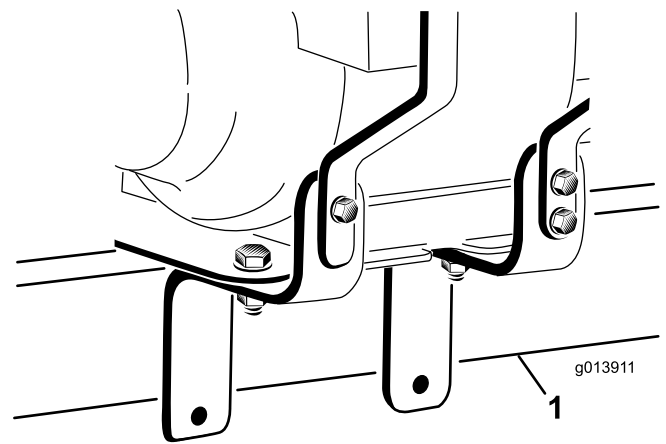
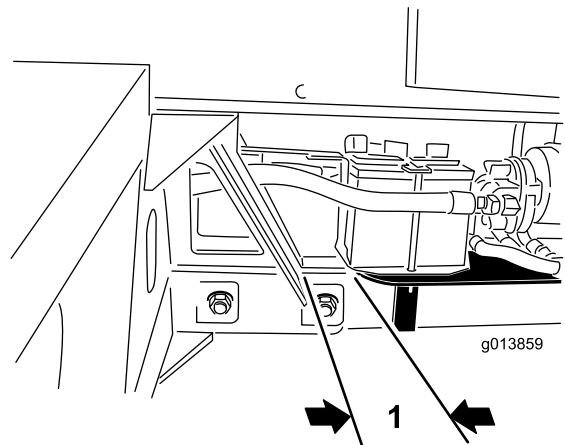

Figure 5
Figure 6
19. Since the engine assembly is heavy, positioning of this component can be difficult. With the help of an assistant, position the engine assembly onto the ProPass hitch tube. Ensure that the engine mount brackets straddle the hitch tube (Figure 5) and that the rear of the engine mount plate is approximately 25 mm (1 inch) from the ProPass hitch tube receiver (Figure 6).